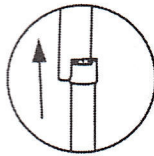
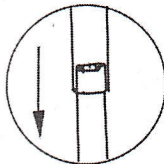

Figure a-1
Figure a-2
3) When you want to lower the treadmill back into position, please lift the end of main frame a little to make the support cylinder higher than the cylinder cover (see figure a-1), push the foldaway support tube with your foot slightly (see figure a-2), press the end of main frame upwards, remove your foot and keep your hand on the end of main frame for a while. The cylinder will shrink under the weight of itself (see figure b) until the main frame goes flat.